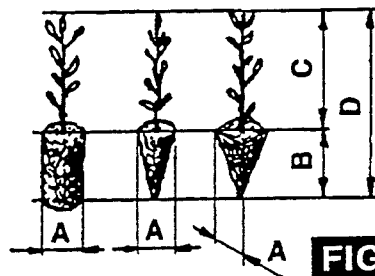

FIG. 7
- conical or cylindrical with a diameter of up to 6 cm (fig. 7)